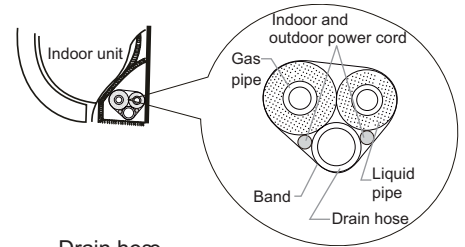

Fig. 14
- (1) Bind up the connection pipe, power cord and drain hose with the band.(As show in Fig.14)